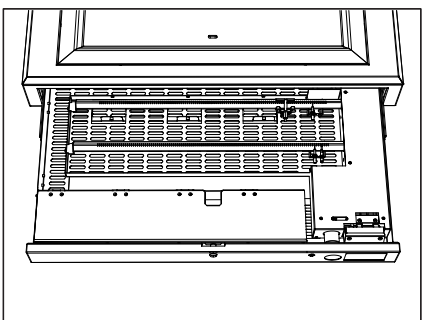

FIGURE 10
6. Grab and slide the SBI in the drawer toward the rear as shown in Figure 10.